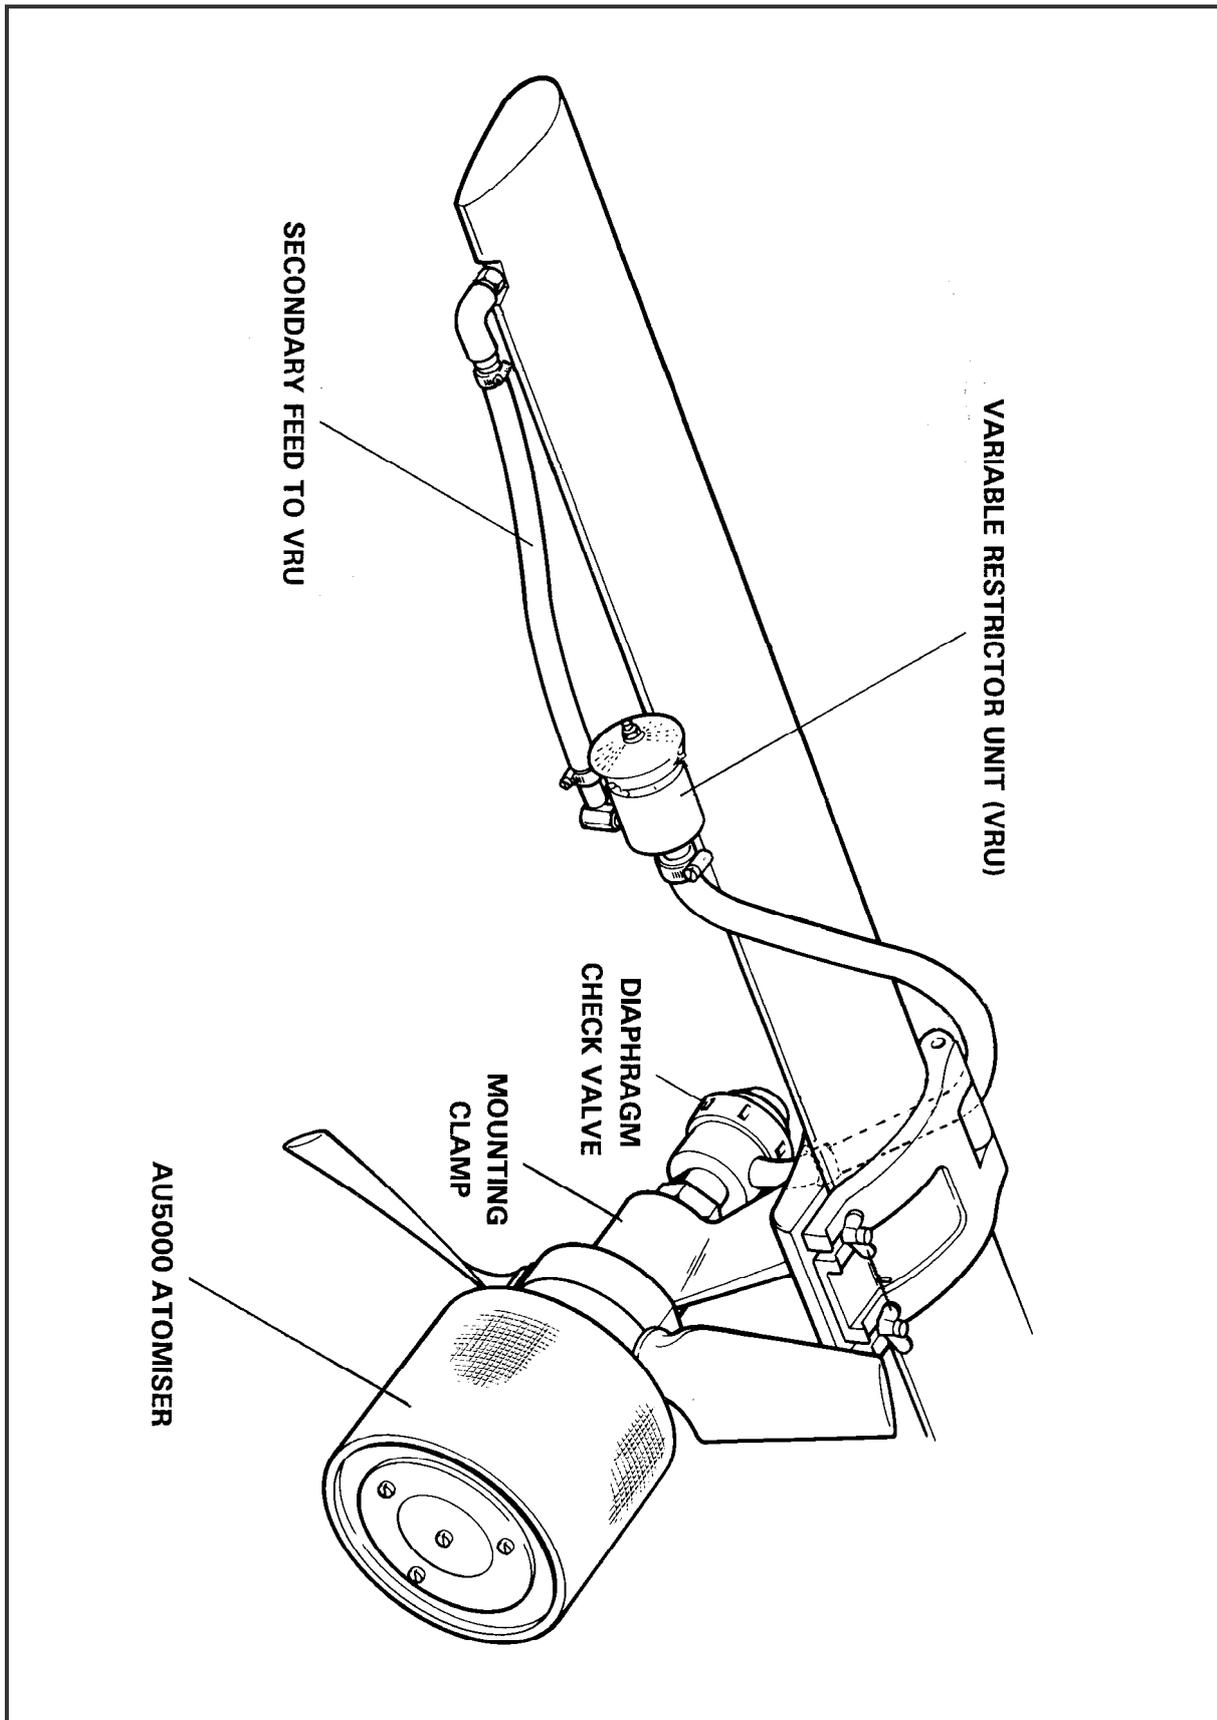

Fig. 1 – Typical Installation of AU5000 Atomiser
7. Either close the unused VRU inlet pipe with the appropriate cap nut (EX1670 for the 1/8" thread or EX1671 for the 1/4" thread) or use the 1/4" inlet as a second feed from the boom. The second feed should be used if the flow rate through each atomiser is likely to exceed 7 litres/min (1.8 USG/min) and the 1/8" inlet is used. See Fig. 1 for details of the installation of this additional feed.